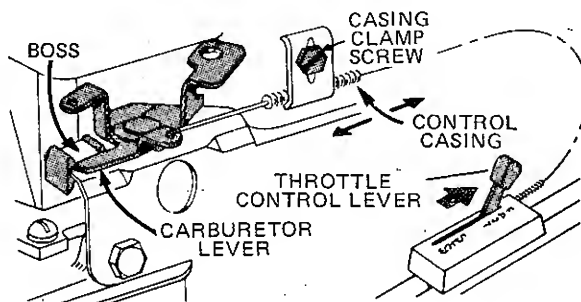

Figure 11
1. Loosen casing clamp screw (Figure 11).
3. Move control casing forward or backward until carburetor lever touches boss as shown in Figure 11.